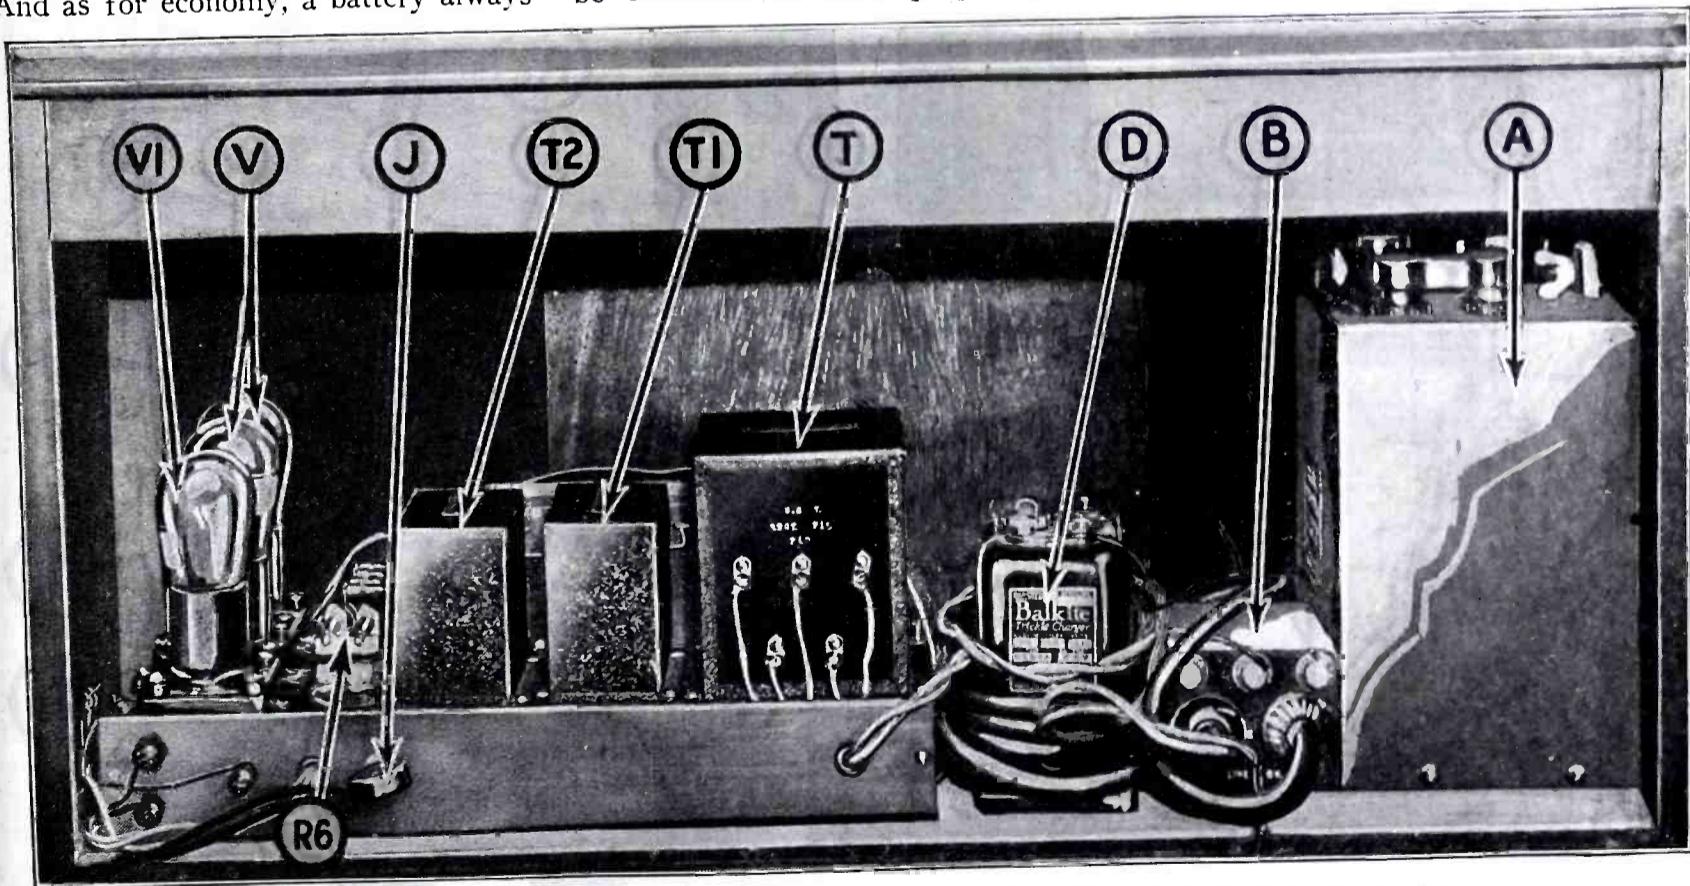

Fig. 2. A rear view of the "B" power unit and resistance coupled amplifier. The trickle charger can be seen at D. B is the automatic magnetic relay.
A unique and highly practical method of remote power control has been incorporated in this receiver. The red pilot lamp on the panel switch glows whenever the set is in use, and serves not only to control the filament circuits of the different tubes but, by means of an automatic magnetic relay (B in Figs. 2 and 6), to switch the lamp-socket power to either the trickle charger (D) in the "A" power unit or to the "B" power unit and the filament of the power tube in the set, as required.